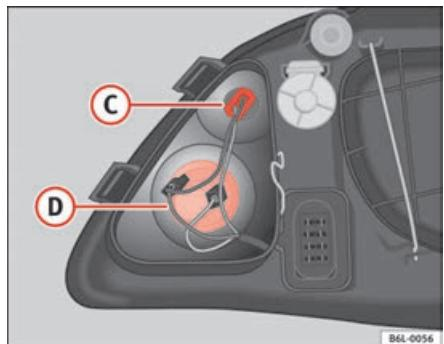

Fig. 156 Side lights
- Pull on the cables to release the lamp holder from the casing C ⇒ fig. 156.